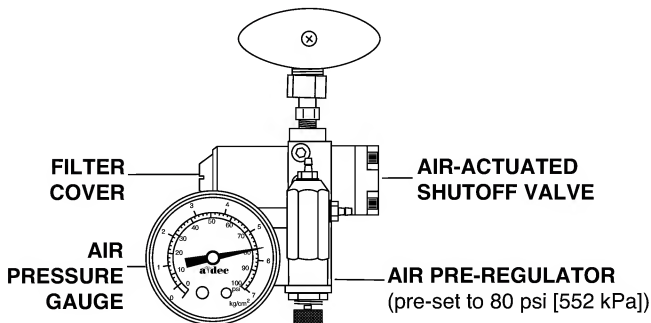

Figure 19. Air Manual Shutoff Valve
1. Be sure that the manual shutoff valve is fully open (counterclockwise). Turn the system ON, and check the pressure gauge in the utility area (*see Figure 19*). Air pressure should be 70–80 psi (483–552 kPa).